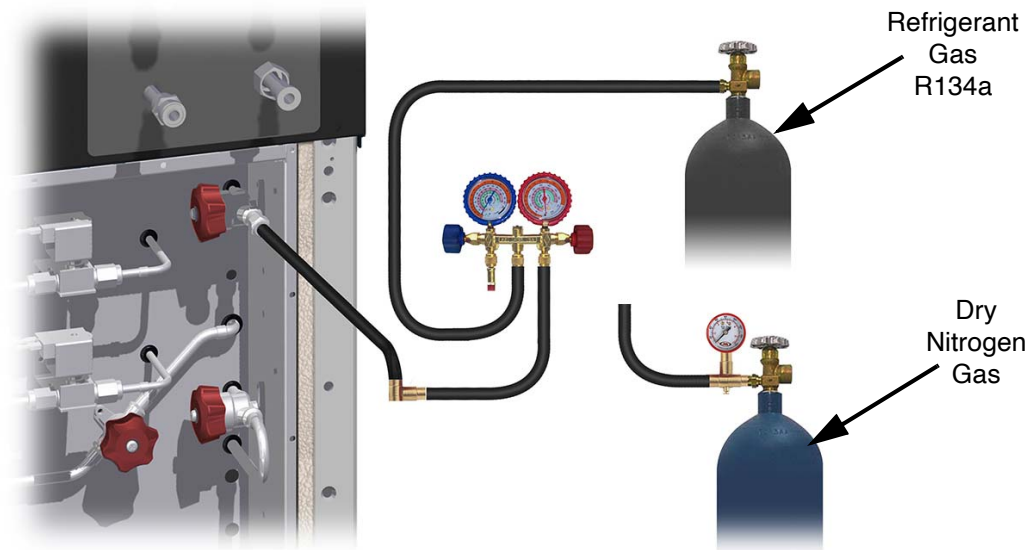
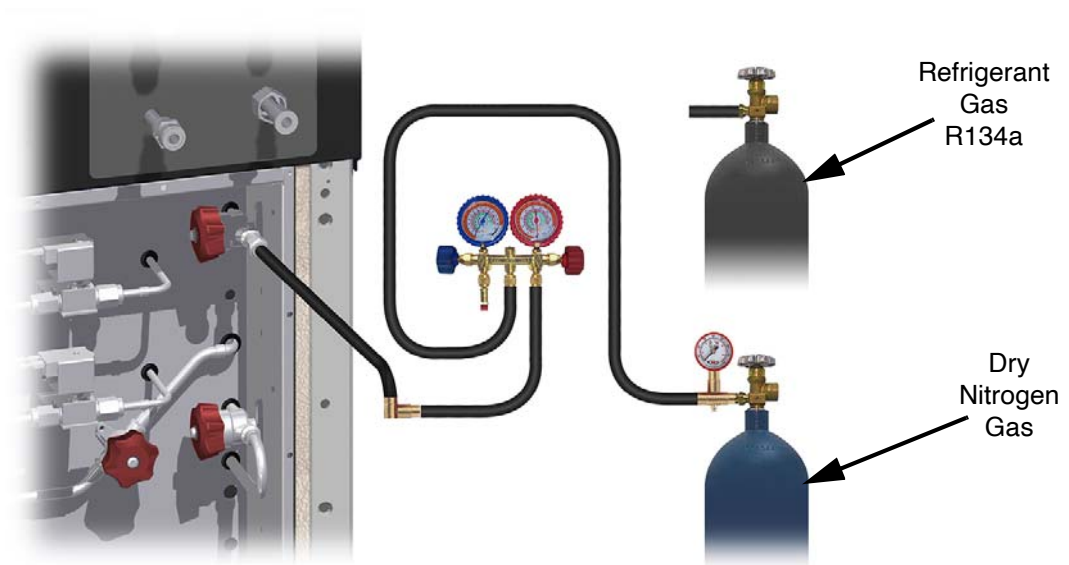

Figure 4-21: Leak Check - Add "Trace" Refrigerant
Figure 4-22: Leak Check - Pressurize with Nitrogen
Refer to Figure 4-21 and Figure 4-22 for the following steps.
2. Connect the manifold's suction (low pressure) hose to the evacuation valve inside the valve box. See Figure 4-21.
- Connect the nitrogen cylinder to the center port of the manifold. See Figure 4-21.